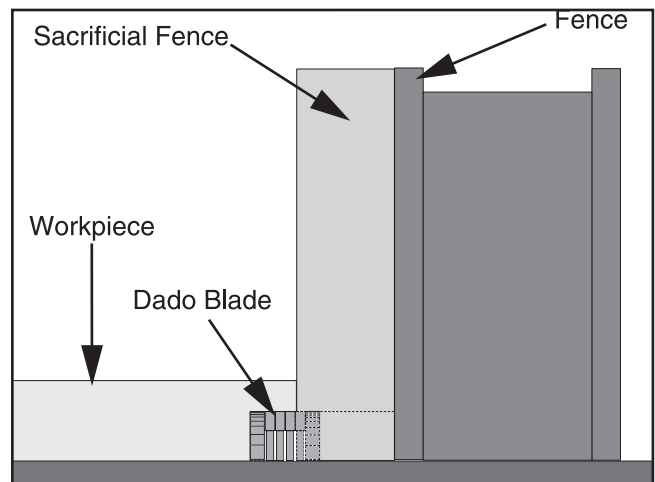

Figure 31. Rabbet cutting.
3. Adjust the fence and align the workpiece to perform the cutting operation as shown in **Figure 31**.